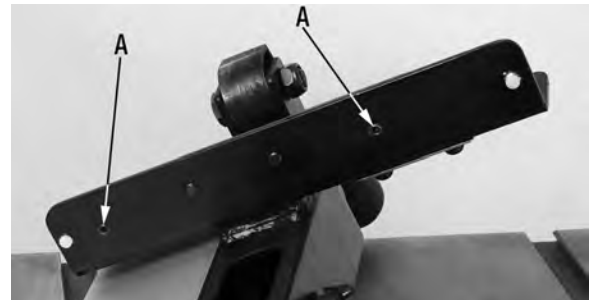

FIGURE 34
The rip fence must be perfectly aligned with the table T-slot, to verify this, align the edge of the rip fence with the table T-slot and lower the locking lever to lock in into place. Check to see if the edge of the rip fence and the table T-slot are parallel. If they are not parallel, unlock the rip fence and turn it upside down. Adjust the set screws (A) Fig.34 in or out, verify your adjustment, repeat if necessary.